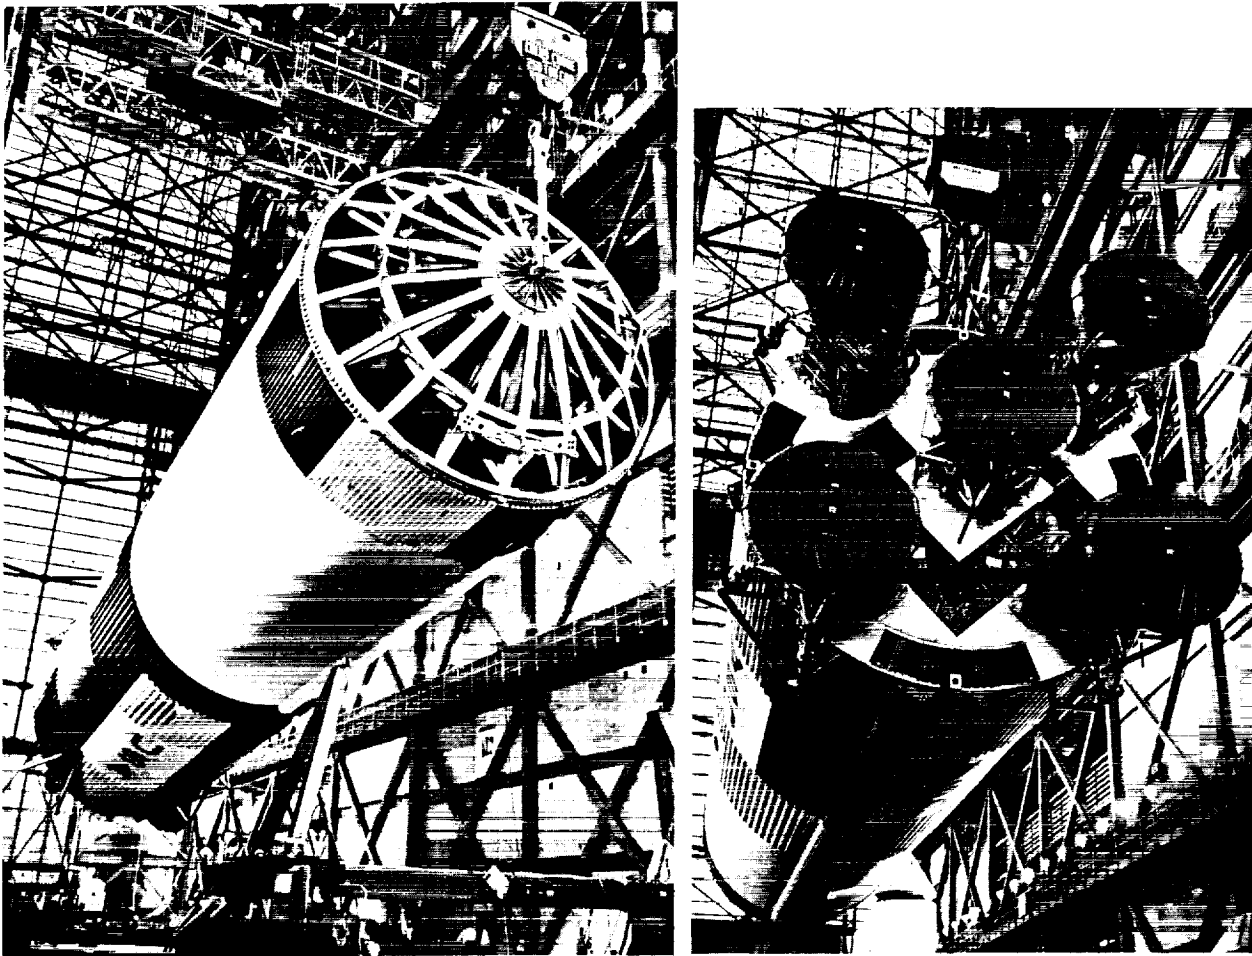

Figure 10-4. S-IC Stage Erection At KSC - Phase I
- b. Remove two (2) self-aligning bearings on rear dolly trunnion supports utilizing forklift with man platform. Tow transporter rear dolly approximately 50 foot clear of stage forward skirt to allow 90° rotation of stage.
- c. Hoist the S-IC stage clear of the transporter dollies per figure 10-4.